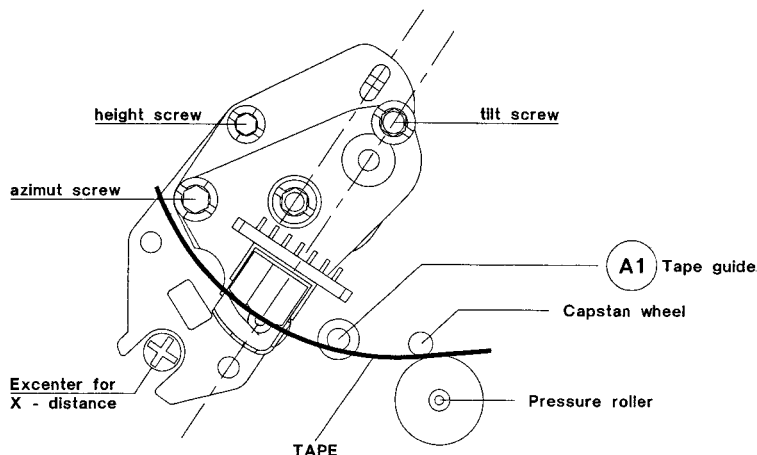

Fig. 1
- Adjust the eccentric screw (fig. 1) until maximum DC level of the TRIV signal.
- Adjust the tilt screw until the lower edge of the tape just touches the tape guide A1 (fig. 1). The tape must not be distorted at the lower edge.
- Adjust the height and the azimuth screws (fig. 1) until maximum audio output.